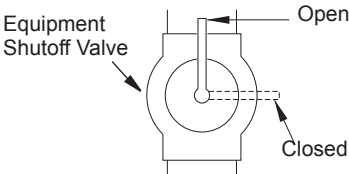

Figure 16 - Equipment Shutoff Valve
1. Close equipment shutoff valve (see Figure 16).
4. Check all joints from equipment shutoff valve to control valve (see Figure 16 or 17, page 17). Apply a noncorrosive leak detection fluid to all joints. Bubbles forming show a leak.